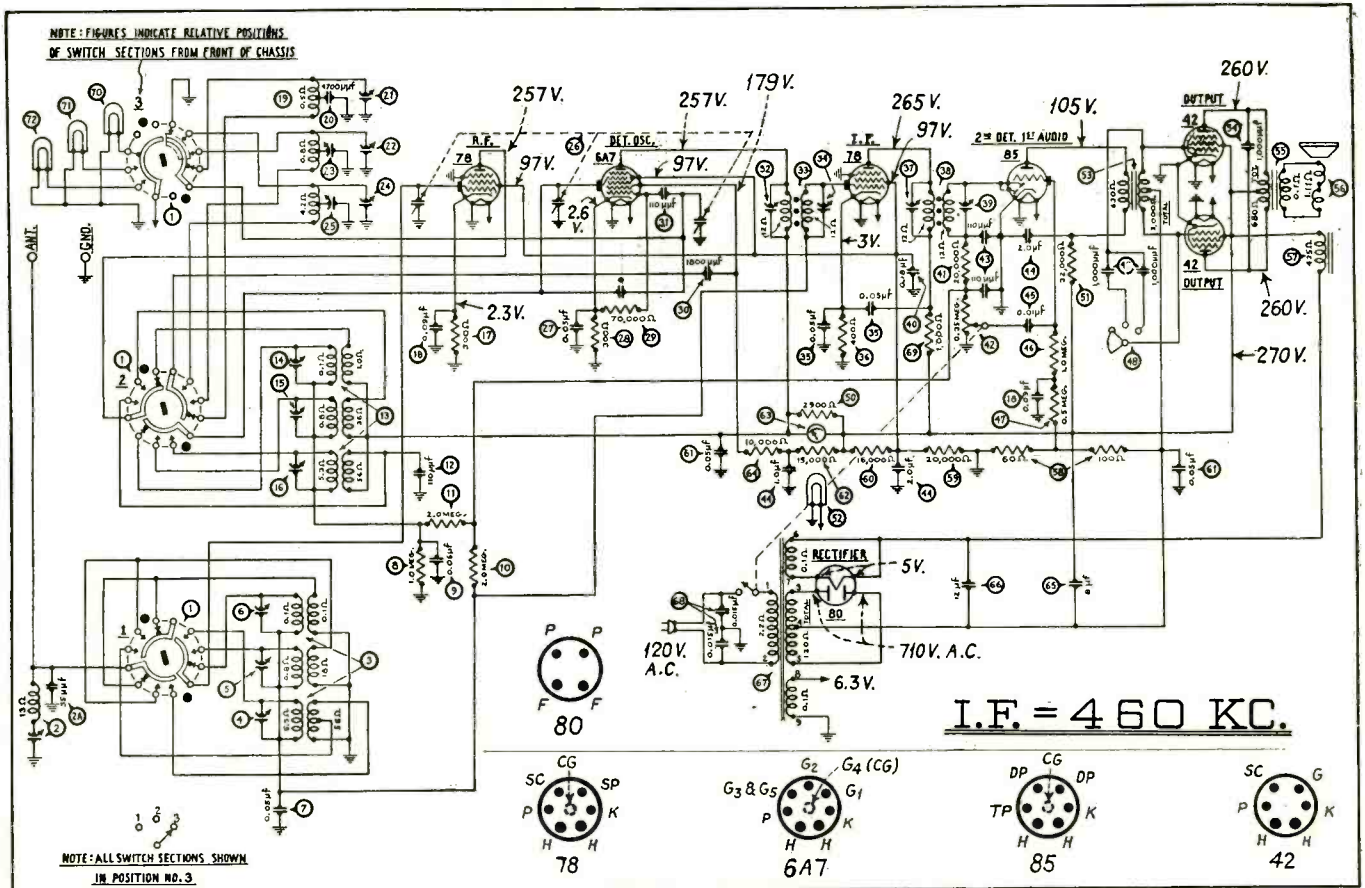

Fig. 1. The complete diagram for the Philco Model 97 receiver.
(1) Same connections as for Wave-Trap Adjustment.
(2) Set waveband switch to Range 3 and adjust receiver dial and signal generator to 18 mc. Then adjust the oscillator SW, r-f SW and antenna SW compensators for maximum. These are numbered (21), (14) and (6), respectively, in Figs. 1 and 2.
(3) Turn waveband switch to Range (Continued on page 349)
The circuit, as may be seen from Fig. 1, consists of a 6D6 r-f stage, a 6C6 1st detector-oscillator stage, a 6D6 i-f stage, a 75 dual diode-triode tube, which functions as a diode 2nd detector and a triode 1st audio stage, and a single 41 output stage. An 84 full-wave rectifier is used in the power unit. The diode current establishes a drop across a resistor which is used as additional bias voltage for the r-f and i-f tubes giving automatic volume control action. The manual volume control varies the audio voltage to the grid of the 75 tube.